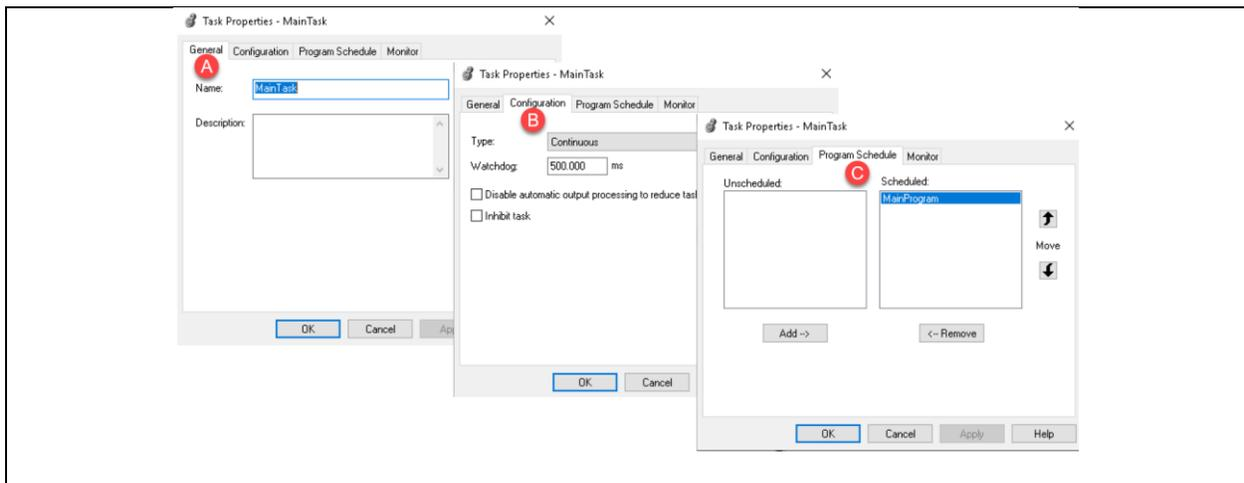

Figure 4. Setting within Task Properties.
3. Figure 4 shows the settings in the Properties view
4. General tab (marked as “A” in Figure 4) shows the name of the task
5. Configuration tab (marked as “B” in Figure 4) shows that it is a Continuous Task, and that the Watchdog timer is set for 500 msec.
6. Program Schedule tab (marked as “C” in Figure 4) shows that the order in which the Continuous Task will scan the Programs within the task. In this example, it shows only the MainProgram, since there is only one Program within the Task.